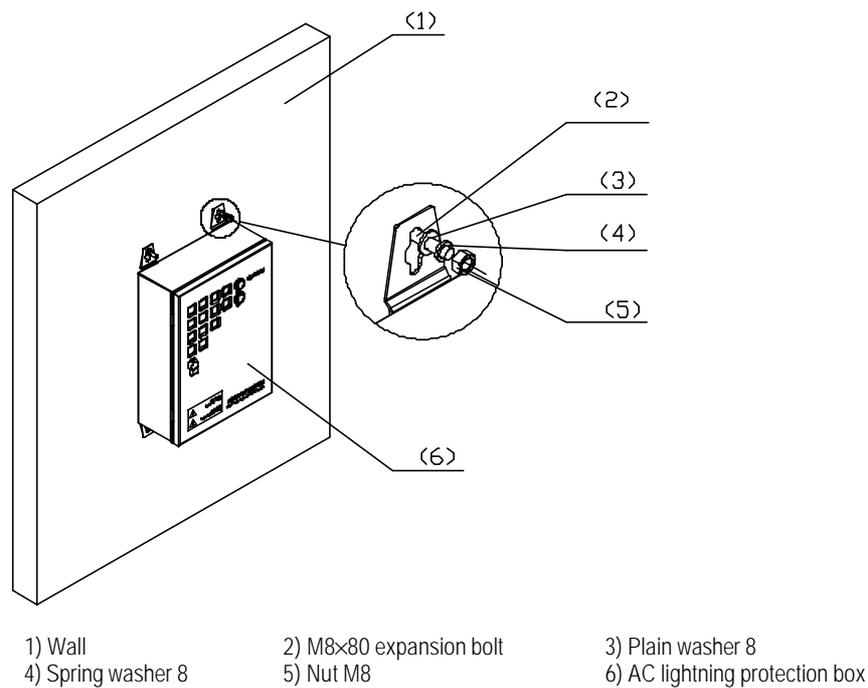

Figure 2-35 Fixing AC lightning protection box (on wall)
- 5) Put the plain washers, spring washers, and nuts onto the expansion bolts, revise the location of the box, and tighten the nuts to a torque of 13.4 N·m. Figure 2-35 shows the whole process.